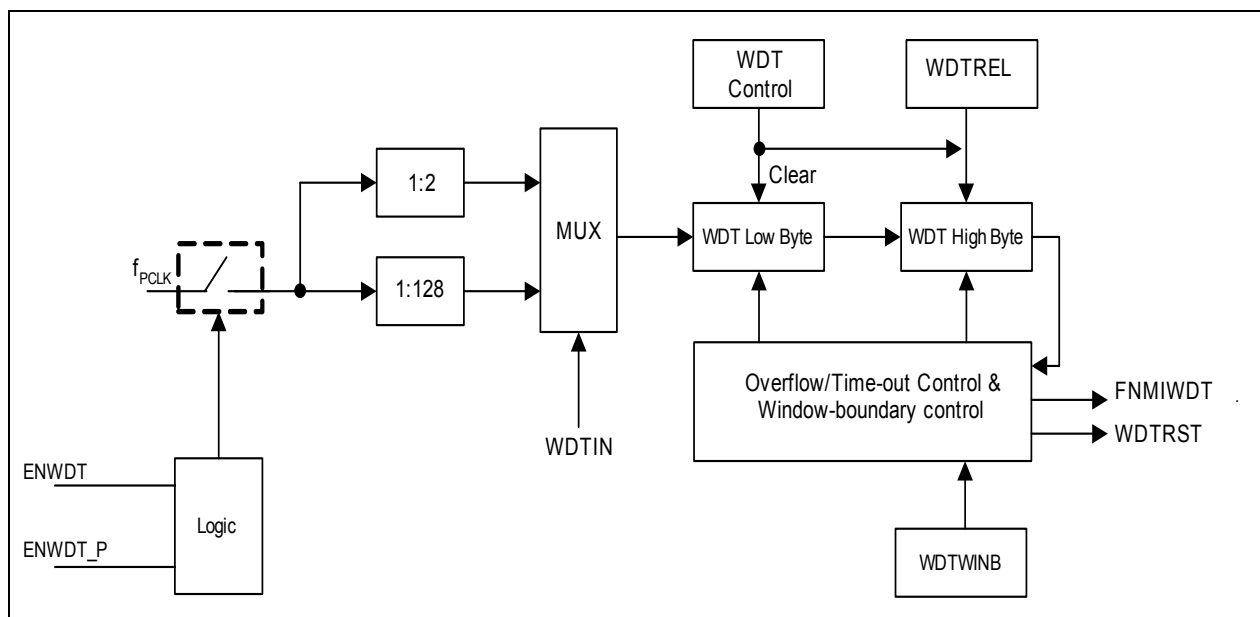

**Figure 28 WDT Block Diagram**
**Figure 28** shows the block diagram of the WDT unit.